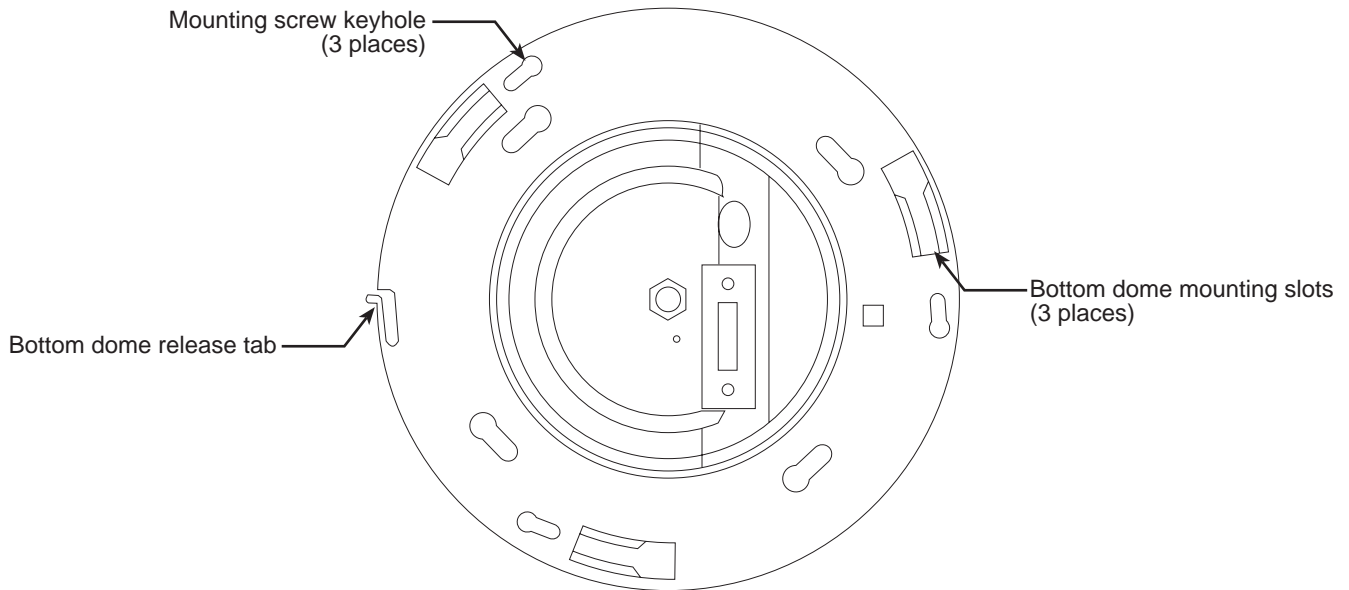

Figure 13. Top view of mounting plate
3. Remove the bottom dome by pressing in on the release tab (see figure 13) until you can rotate the bottom dome counterclockwise. (A lanyard safety cable connects the top dome and the bottom dome, so you do not need to worry about dropping the bottom dome.)
5. Rotate the mounting plate so the screw heads are positioned at the large end of the key slots (see figure 13). When that happens, slide the mounting plate over the screw heads.
10. Secure the camera mounting plate in the top dome by fitting the mounting plate over the 3 phillips head screws and rotating the mounting plate until the screw heads slide into the small end of the key slots (see figure 13).